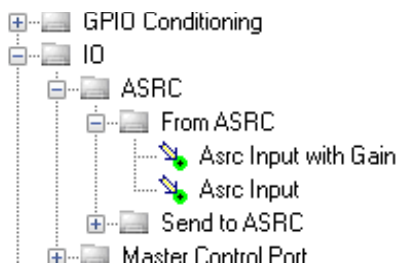
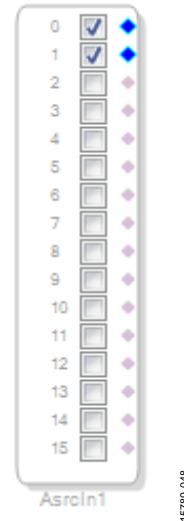

Figure 45. ASRC Input Block Selection
Figure 46. ASRC Input Block
- a. From the **IO > ASRC > From ASRC** folder, click **Asrc Input** (see Figure 45) and drag it into the project space to the right of the toolbox (see Figure 46).
By default, Channel 0 and Channel 1 are active when their corresponding checkboxes are selected. Because the ASRC 0 outputs correspond to Channel 0 and Channel 1, this default configuration can be used (see Figure 46). For reference, a mapping of the ASRC outputs to the corresponding channels on the **Asrc Input** block in the DSP schematic is provided in Table 1.